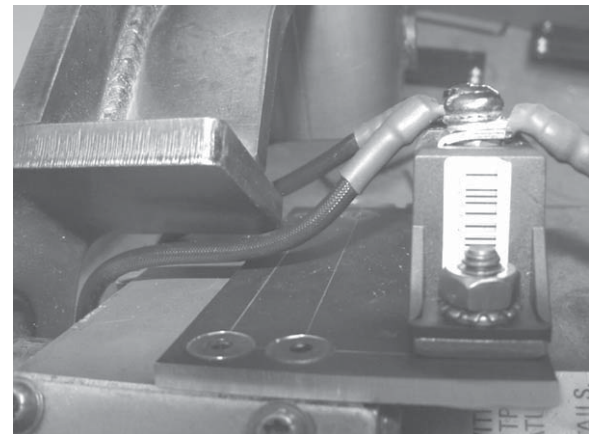

FIGURE 2
3. Attach black wires provided in kit to module. See Figure 2. Connect small ring terminal end of wire to module: